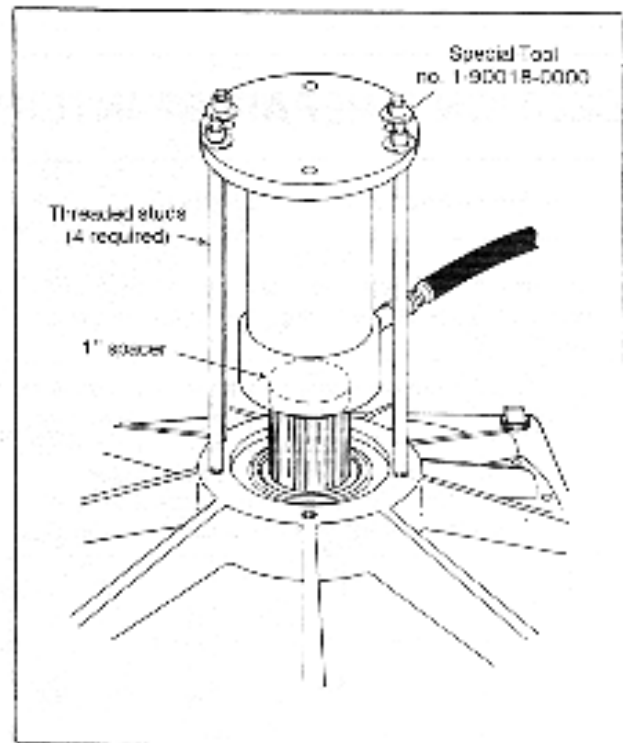

Fig. 32. Pulling Cover from Housing.
6. Remove cap screws and pull main housing cover from housing. (see fig 32)